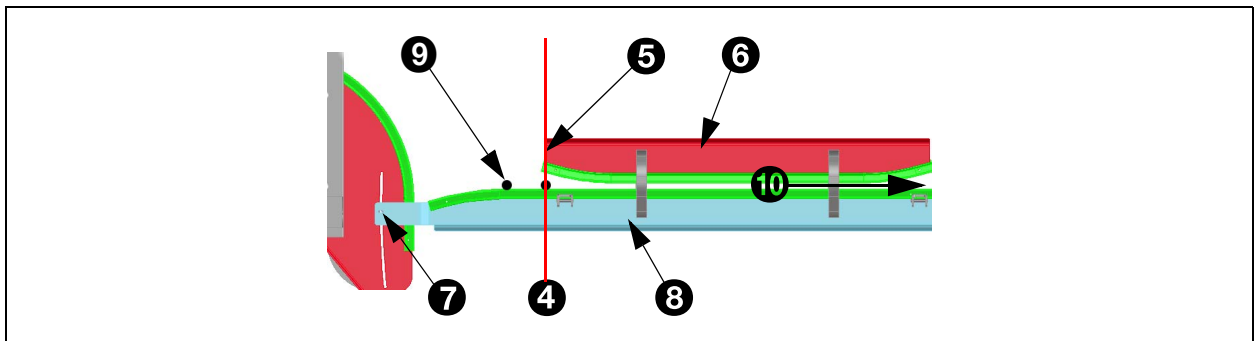

Fig. 78 - Chain guide
2. With the height-adjustment (7) adjust the lower guide (8) in such a way that the following white bush (9) on the transport chain just rests on the lower guide.
3. Adjust the upper guide (6) at 0.5 to 1 mm above the chain.
- The transport direction of the chain is indicated with the arrow (10) in fig. 78.